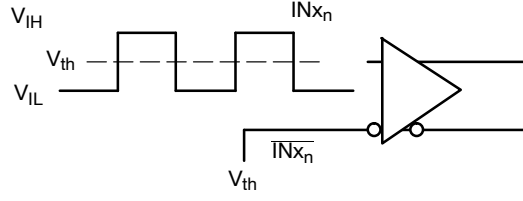
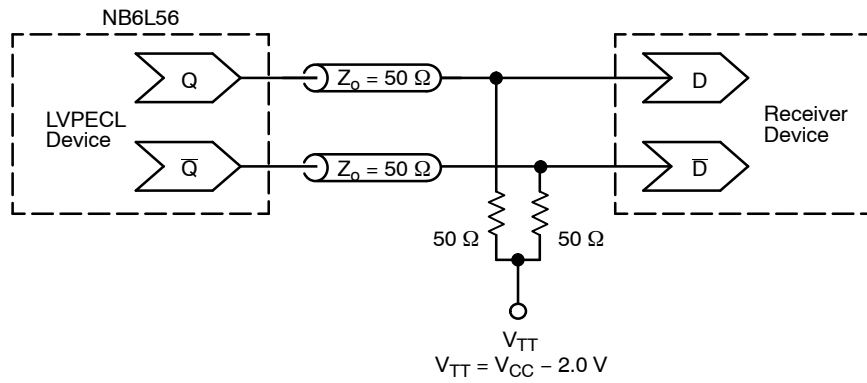

Figure 5. Differential Input Driven Single-Ended
Figure 16. Typical Termination for LVPECL Output Driver and Device Evaluation
DIFFERENTIAL INPUT DRIVEN SINGLE-ENDED (Note 6) (Figures 5 and 6)
5. Outputs evaluated with 50 Ω resistors to $V_{TT} = V_{CC} - 2.0$ V for proper operation (See Figure 16).
8. Differential 50% duty cycle at $V_{INPPmin}$ clock source. Outputs evaluated with 50 Ω resistors to $V_{TT} = V_{CC} - 2.0$ V (See Figure 16). Input crosspoint to output crosspoint for INxn/INxn to Qx, Qx; 50% input to output crosspoint for SELx to Qx, Qx. See Figures 5, 10 and 11.